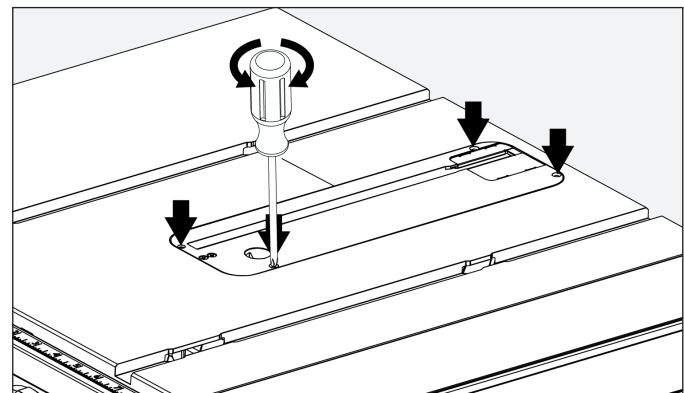

FIGURE 14
If adjustment is needed, adjust the (4) Phillips set screws (FIGURE 14) up or down as needed. Repeat this process as needed until the throat plate is level.